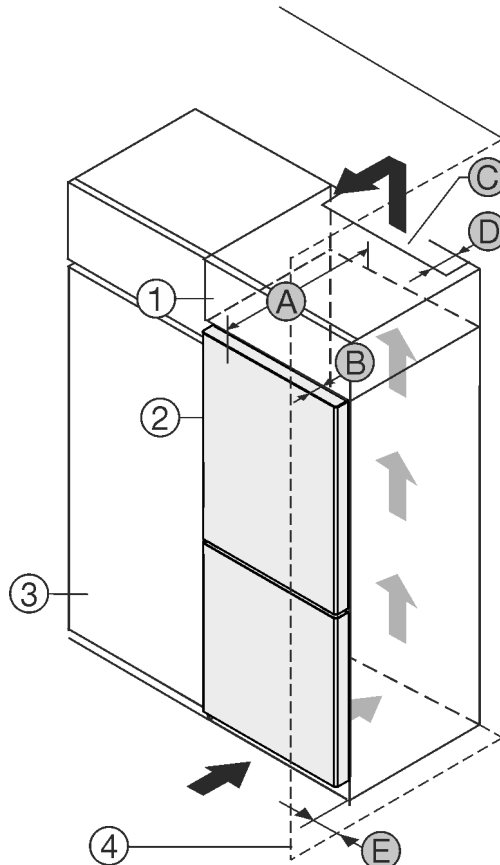

Fig. 1
- (1) Top cupboard
- (2) Appliance
- (3) Kitchen cabinet
- (4) Wall
- (A) Appliance depth
- (B) Door depth
- (C) Ventilation cross section
- (D) Distance to the back of the appliance
- (E) Distance to the side of the appliance
You can place the appliance directly beside the kitchen cabinet Fig. 1 (3).
There must be a ventilation shaft at the depth Fig. 1 (D) of the back of the top cupboard over the entire width of the top cupboard.
The ventilation cross-section Fig. 1 (C) must be maintained under the ceiling.
If the appliance is set up with the hinges next to a wall Fig. 1 (4), the distance between the appliance and the wall must be at least 13 mm.
If the appliance is set up with the hinges next to a wall Fig. 1 (4), the distance between the appliance and the wall must be at least 20 mm.
In order to be able to fully open the door, the appliance must protrude by the depth of the door *Fig. 1 (B)* from the front of the kitchen cabinet. The appliance may protrude further depending on the depth of the kitchen cabinets *Fig. 1 (3)* and whether wall spacers are used.